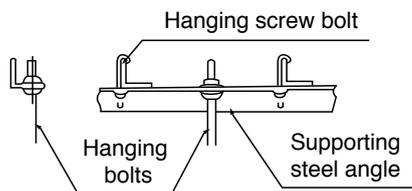

Fig. 4.9
Install and use the supporting steel angle. (See Fig 4.9)
9. Mount the indoor unit onto the hanging screw bolts with a block. Position the indoor unit flat using a level indicator to prevent leaks. (See Fig. 4.9).